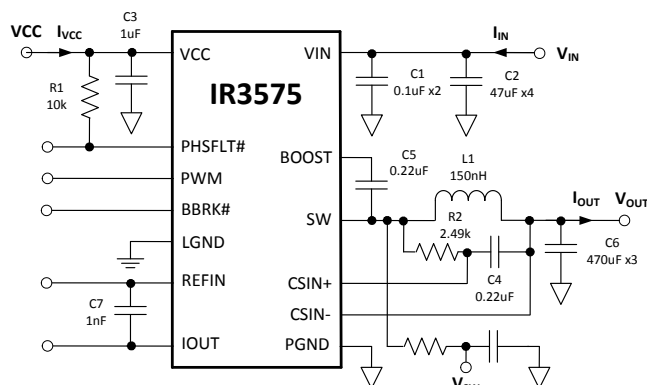

Figure 32: IR3575 Power Loss Measurement
Circuit of Figure 32, $V_{IN}=12V$, $V_{OUT}=1.2V$, $f_{SW} = 400kHz$, $L=150nH$ (0.29mΩ), $V_{CC}=7V$, $T_{AMBIENT} = 25^{\circ}C$, no heat sink, no air flow, 8-layer PCB board of 3.7" (L) x 2.6" (W), no PWM controller loss, no inductor loss, unless specified otherwise.
Circuit of Figure 32, $V_{IN}=12V$, $V_{OUT}=1.2V$, $f_{SW} = 400kHz$, $L=150nH$ ($0.29m\Omega$), $V_{CC}=7V$, $T_{AMBIENT} = 25^{\circ}C$, no heat sink, no air flow, 8-layer PCB board of 3.7" (L) x 2.6" (W), no PWM controller loss, no inductor loss, unless specified otherwise.
The single-phase IR3575 efficiency and power loss measurement circuit is shown in Figure 32.